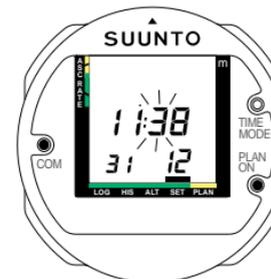

Fig. 4.15 TIME SETTING
3. To scroll through the minute, month and date, keep the TIME/MODE and COM contacts connected. Release your fingers when the display you wish to change is blinking (Fig. 4.14). Repeat step 2 to change this value (Fig. 4.15).